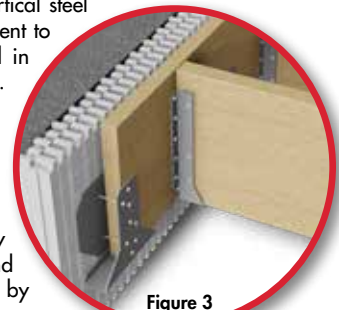

Figure 3
**FIGURE 3.** Attachment of standard floor joists to an ICF using traditional lumber. The Simpson Strong-Tie ICF-VL is embedded into the poured concrete and provides mounting for wood or steel ledgers.